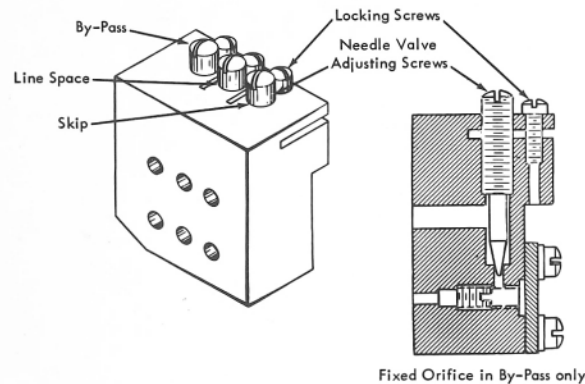

Figure 17. Needle Valves
4. Loosen the lock screw for the center needle valve (the center right screw, Figure 17).
- b. Back off on the center left screw (Figure 17) until you can feel the detent nip the detent wheel. The impact will be transmitted through the screwdriver.
4. Loosen the lock screw for the skip needle valve (the front right screw, Figure 17).
- b. back off on the front left screw (Figure 17) until you feel the detent nip the detent wheel. The impact will be transmitted through the screwdriver.
- (1) If no nipping is detected after turning out a maximum of five turns, stop the carriage motor so
- Loosen the lock screw for the bypass needle valve (the rear right screw, Figure 17).